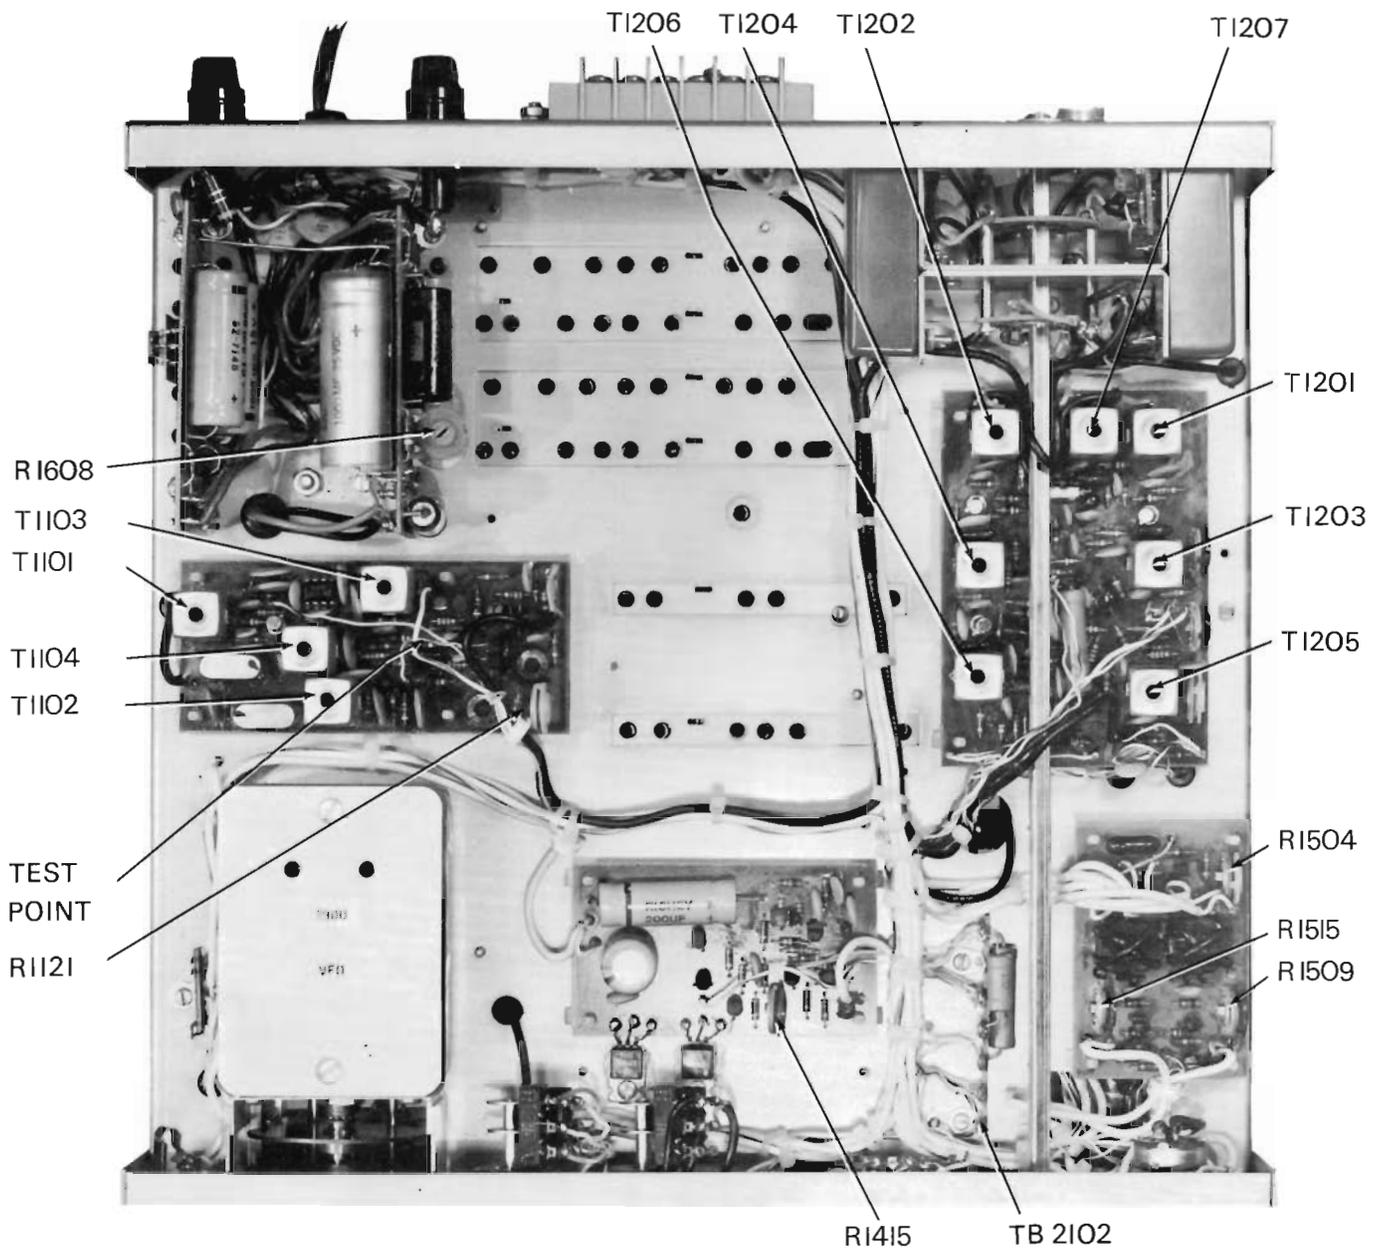

Figure 5-6. Bottom View with Covers Removed
- c. Refer to figure 5-6. Adjust the potentiometer R1504 for an audio zero beat.
- d. Refer to figure 5-6. Facing the variable resistor R1415 from the right side of the receiver, rotate the adjusting ring full clockwise; then rotate the adjusting ring counterclockwise until crossover distortion just disappears on the oscilloscope.
Refer to figure 5-6. Place DC probe of VTVM to the 15 volt terminal on terminal strip TB2102 (fifth terminal from the front). Adjust the variable resistor R1608 located on the Power Supply board for 14.5 volts.